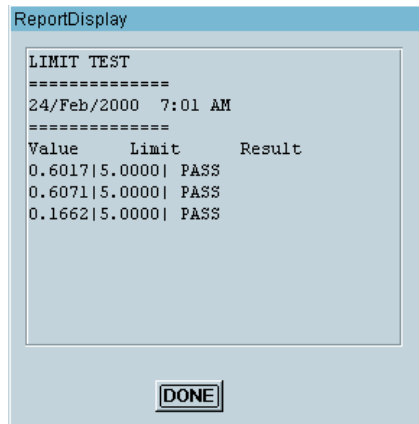

Figure 8-16. The ReportDisplay Panel View
Figure 8-16 shows the panel view of the ReportDisplay UserFunction with Show Panel on Execute selected in the Properties box. In the Properties box, the Pop-up Panel Title has also been changed to ReportDisplay. To create the panel, select the Confirm (OK) and Logging AlphaNumeric objects, and click Edit ⇒ Add to Panel. Note that the Logging AlphaNumeric display has Show Title Bar deselected. Note also that Confirm (OK) button has been renamed DONE. The Confirm (OK) button is included to keep the display on the screen until the user is done viewing it.
3. Run the program and the ReportDisplay panel should pop up and display the values as shown in Figure 8-16. Click on DONE to complete execution. Then save the program as Report.vee.